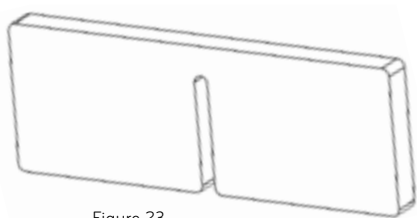

Figure 23
2. Find the (2) foam spacers, see Figure 23 for what they look like.